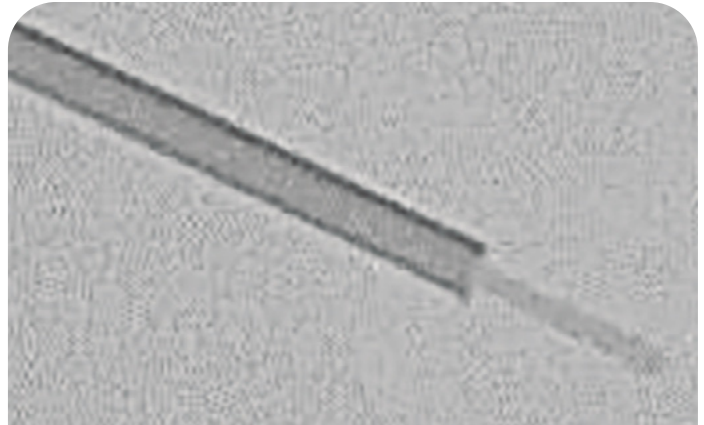

FIGURE 4. TUNGSTEN-LOADED POLYIMIDE WITH A WALL THICKNESS OF .002” AND A STAINLESS-STEEL GUIDEWIRE RUNNING THROUGH THE MIDDLE OF THE LUMEN:
- Polyimide can be composited with particulate materials quite easily. And thanks to the layering process, two different composite materials can be used within one single tubing cross-section. Loading or compositing polyimide with submicron tungsten particulate (powder) provides a radiopaque image. The clarity of this image depends on the wall thickness of the polyimide layer. A wall thickness $\geq .002$ ” provides a good, clear fluoroscopic image that lightens as the wall thins, but is still visible when the wall is as thin as .0008.” (See Figure 4.)